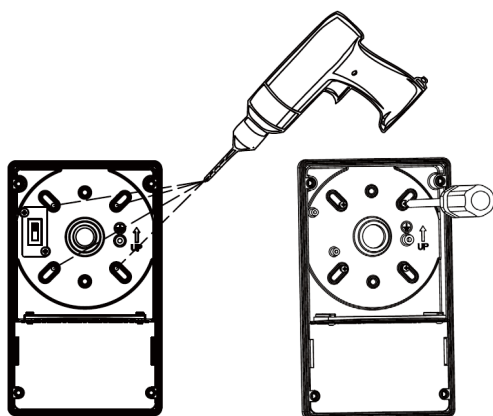

Fig. 4
5. Affix the bottom plate on the pre-drilled wall or junction box. (Fig. 4)